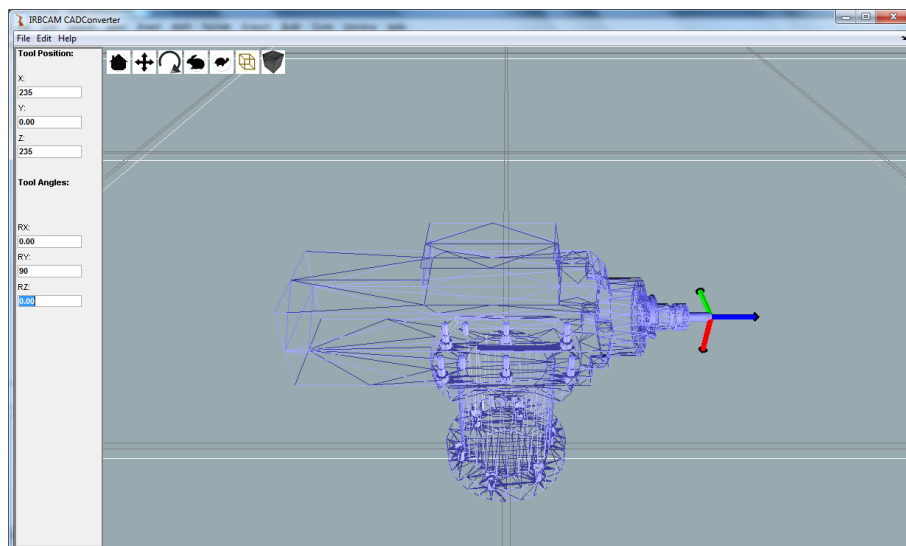
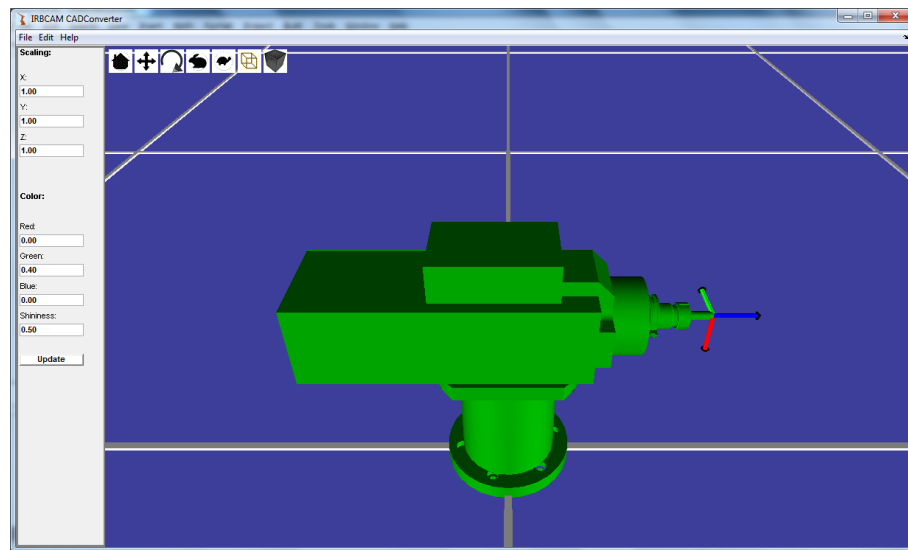

Figure 194: CAD Converter: Screen after a tool coordinate frame has been shifted to the correct location.
Figure 195: CAD Converter: Geometry properties.
Note that the default location for the coordinate frame of the tool is located at the origin (0,0,0). The first step is to shift this coordinate frame to the correct location. Go to the menu 'Edit - Tool Data' (or CTRL+T) and enter the following values: X=235, Y=0, Z=235, RY=90°. You should then see the screen as shown in Figure 194. Note that the blue vector in Figure 194 is the Z-axis of the tool, and this vector must point in the direction of the cutting tool. That is the reason why the rotation RY=90° is required in this example. Figure 195 shows the screen when 'Edit
- Geometry Properties' (or CTRL+P) has been selected. In this mode, the CAD file can be scaled in the X,Y and Z directions and it is possible to change the appearance of the object. In Figure 195 the 'Solid Mode' has been selected (as opposed to Wireframe) by using the icons located at the top of the 3D graphics window. The RGB colours have been changes to 0,0.4,0. Click on 'Update' to change the colours in the graphics window. (All other parameters update automatically).